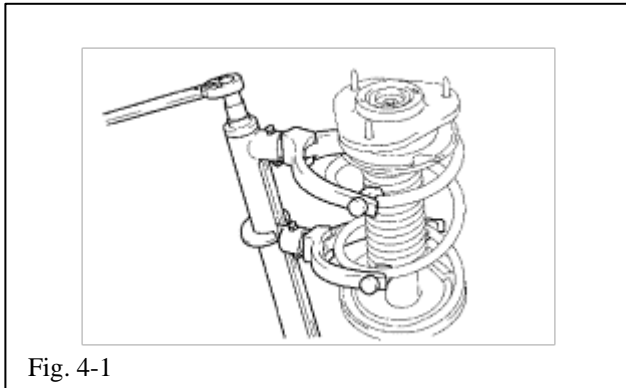

Fig. 4-1
- (b) Remove the lock nut, spacer, upper support assembly, spring seat, bumper, and insulator (Fig. 4-1).